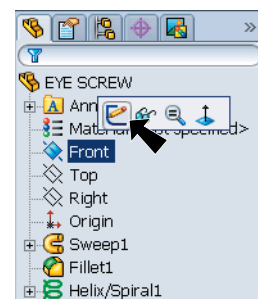

Fig. 20
Step 1. Click **Front** (plane) in the Feature Manager and click **Sketch**  from the Content toolbar, Fig. 20.